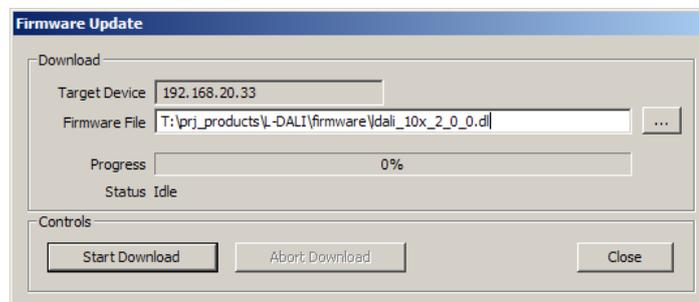

Figure 252: Firmware Update dialog of the LINX Configurator.
6. This opens the Firmware Update dialog as shown in Figure 252. Click on the button "...” and select the firmware image ("ldali_10x_2_0_0.dl").